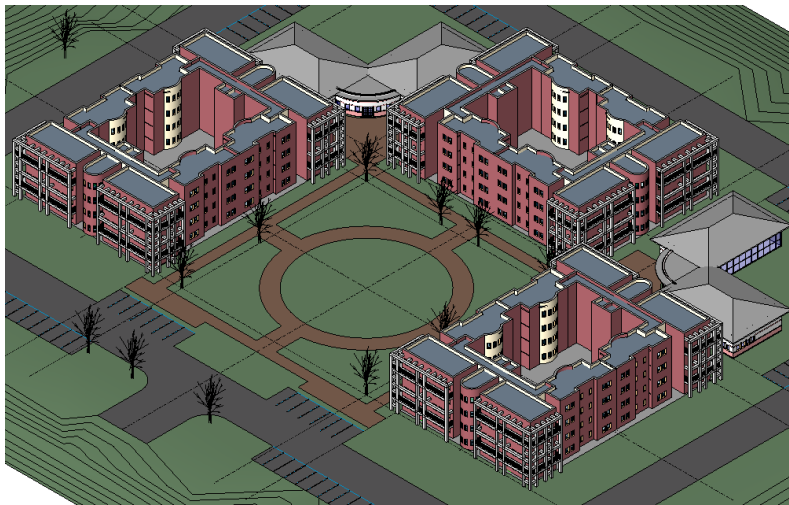

Figure 16-77 The 3D view of the completed Apartment Complex project
11. You will notice that all the linked projects have been placed at the base level, **Level 1**. Select all the linked models and move them vertically upward by 10'0" (3000mm) using the elevation views. The site plan of the completed project appears similar to the sketch view given for the site plan of this tutorial. The 3D view of the project looks similar to the illustration given in Figure 16-77.